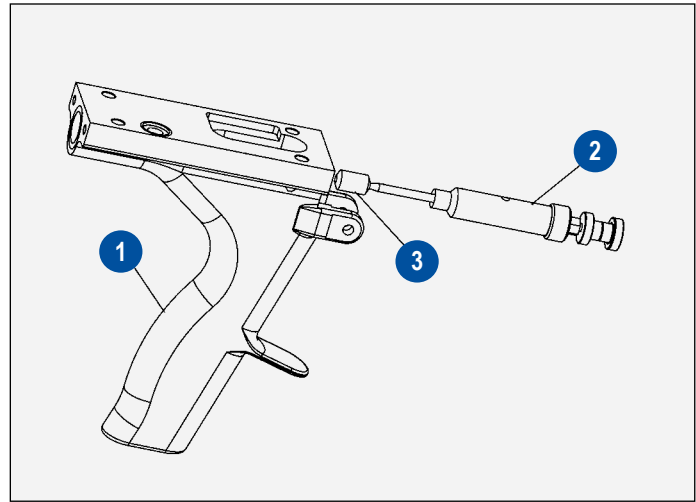

Figure 21: Needle Packing Assembly
2. Lay the handle assembly on its side marked “X” (See figure 21) and support the area under the trigger tangs, leaving the roll pin clear.
NEEDLE PACKING ASSEMBLY (Figure 21)
5. Place the new packing (Item 52) on the needle assembly (see Figure 21).